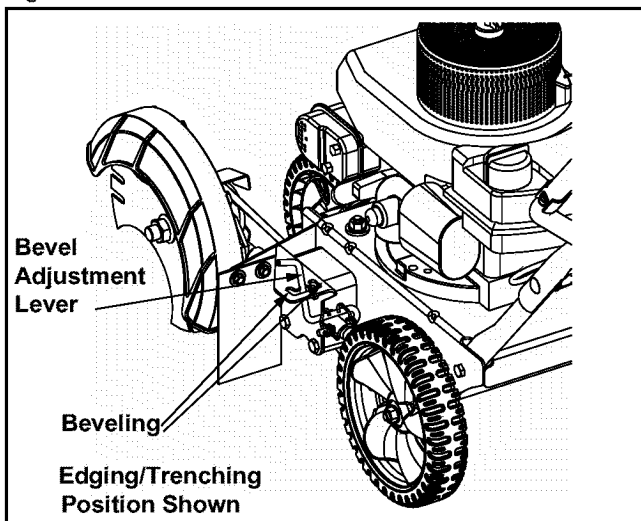
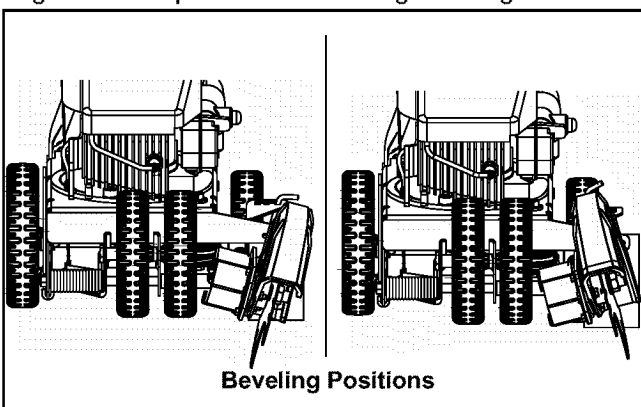
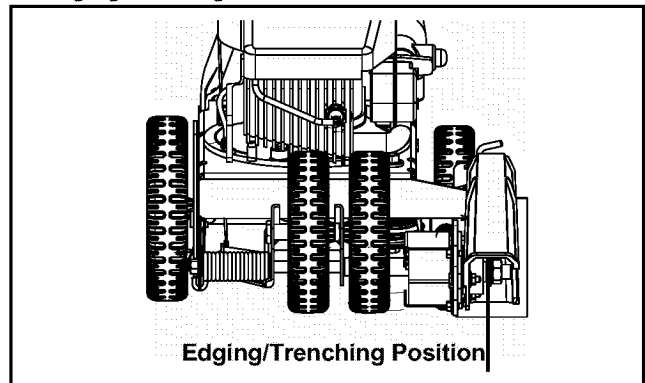

Figure 5
Figure 6
Figure 7
The angle of the edger blade can be adjusted by placing the bevel adjustment lever in one of three positions for edging/trenching or beveled edging. See Figure 5.
Set the bevel adjustment lever (refer to Figure 5) in the first (left hand) or third (right hand) notch to place the edger blade in position for beveling. See Figure 6.
Set the bevel adjustment lever (refer to Figure 5) in the center notch to place the edger blade in a 90° position for edging. See Figure 7.
- Set the blade adjustment lever (refer to Figure 5) in the center notch to place the edger blade in a 90° position (see Figure 7) and place the blade depth control lever in the lowest position.